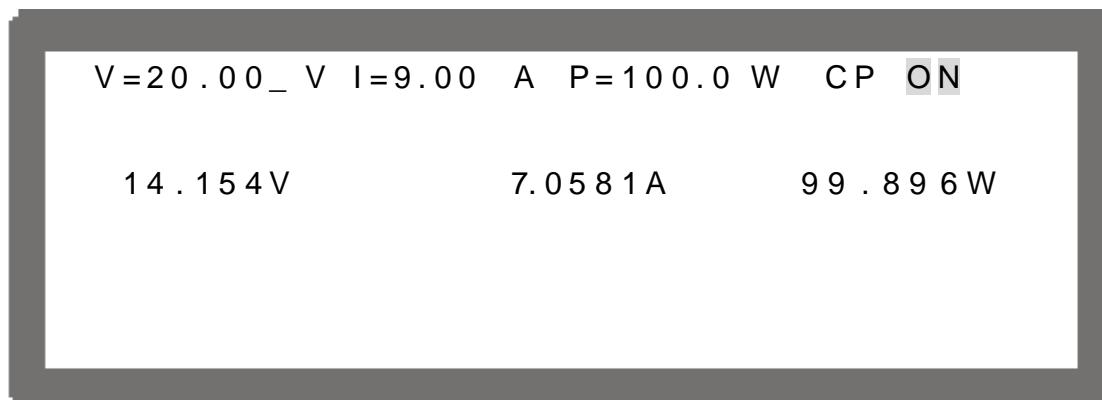

Figure 4-26
1. Press “**VOLTAGE**” to set the output voltage. The cursor after the V value on the MAIN PAGE will blink as Figure 4-26 shows.